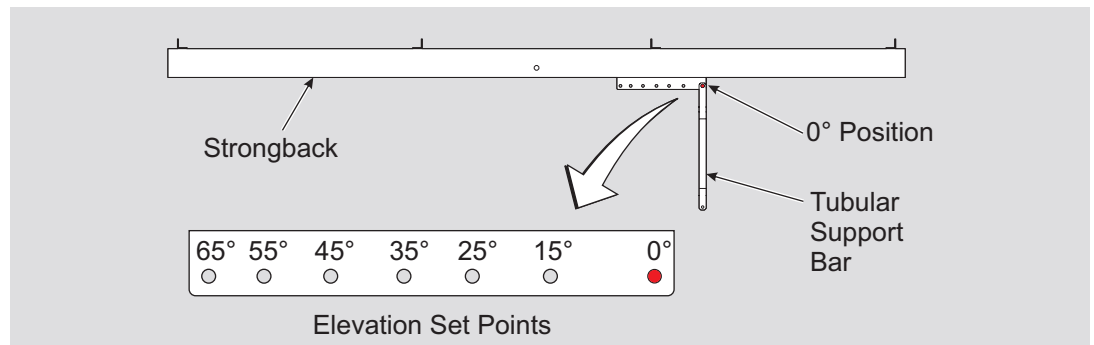

Figure 2-1: Positioning Support Bar
- Remove the Support Bar from the Strongback and re-install in the 0° elevation set point. Secure with the 1/2" hardware and finger tighten. (See Figure 2-1)